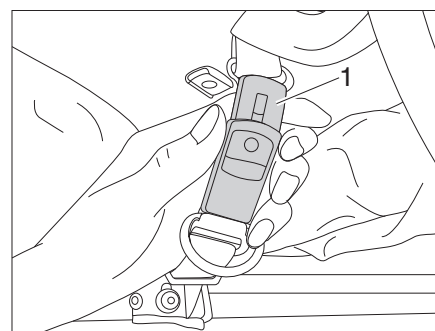

Fig. 53 Closing the securing belt
- Close the securing belts (Fig. 53,1).